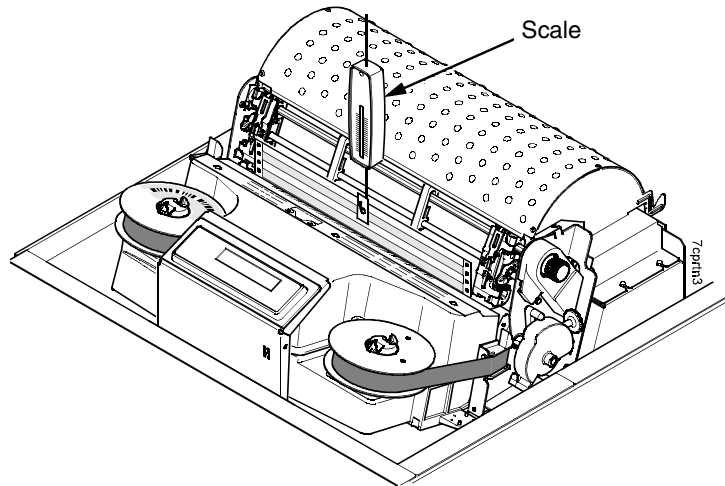

Figure 19. Measuring Paper Tension
7. Insert the hook of a "fish scale" force gauge through the tape you installed in step 5. (Figure 19.)
8. Use the scale to pull the paper slowly straight up through the print station for about six inches and note the maximum force exerted on the scale. Do not pull any page perforations through the print station. (Figure 19.)